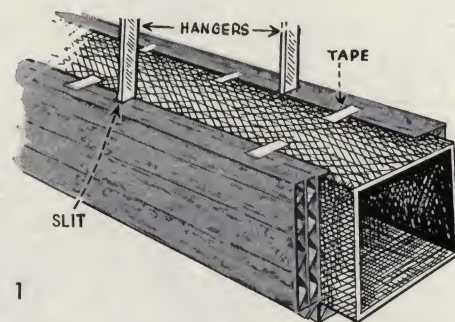
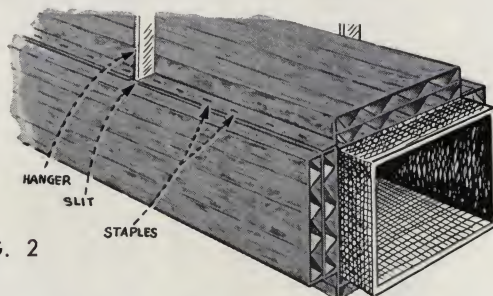
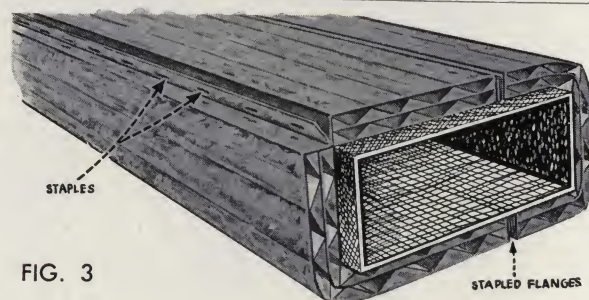

FIG. 1
FIG. 2
FIG. 3
(1) Lengths of insulation should be about 6" more than the length of the section of duct being worked upon. These will vary from 4 ft. to 16 ft. depending on arrangement of hangers or supports, and variations in duct sizes. (2) Ascertain the dimensions on 3 or 4 sides of the duct, excluding either the top or bottom side when the hangers or supports are too close to each other for efficient application. (3) Use as many strips of the necessary combination of widths as will equal or be wider than that dimension, joining them together according to instructions "FOR WIDE SPACES" on page 6. (4) Lay the unopened assembled strips along the edge of the duct where the hangers or supports are fastened. Open one edge starting flange, slit it to accommodate hangers, and tape it to duct with any tape. *See Fig. 1.* (5) Expand insulation fully while wrapping it around. (6) Where the installation is to first cover 3 sides, tape the last edge flange (*see*
*Fig. 1*), and then place an expanded strip of insulation (or attached strips) of suitable width over the uncovered duct surface and staple its edge flanges to the taped-on insulation, using a Bostitch T5-8 Outward Clench Tacker, which we can furnish, and 1/2" staples. *See Fig. 2.* (7) Where the installation is to cover the 4 sides in one operation, bring the starting and ending flanges together and staple them to each other with either the T5-8 tacker or the P-6 plier. *See Fig. 3.*